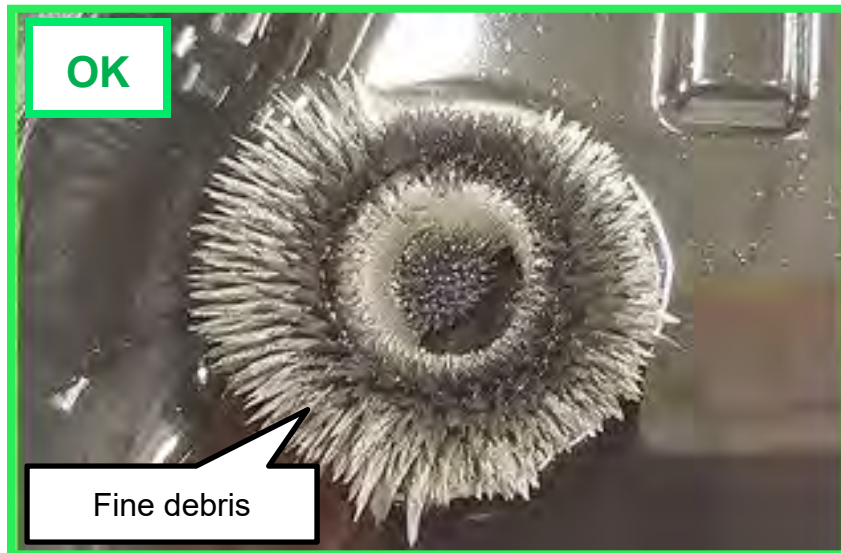
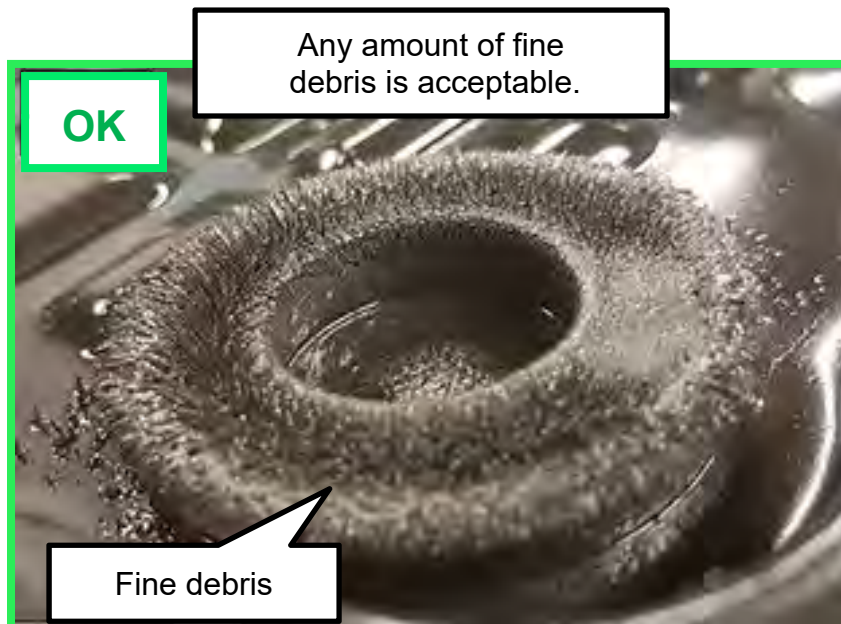

Figure 18
Figure 19
- Figure 18 and Figure 19 **are acceptable for this repair** – Magnets with fine debris or sludge in any amount.